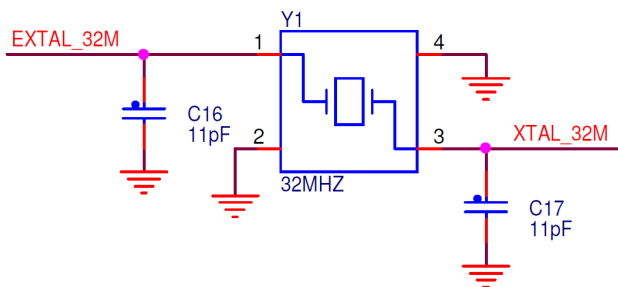

Figure 7. FRDM-CR20A 32 MHz reference oscillator circuit
- 32 MHz Reference Oscillator - Figure 7 shows the external 32 MHz external crystal Y1. This mounted crystal must meet the specifications outlined in the AN3251 application note. The IEEE 802.15.4 Standard requires that the frequency be accurate to less than +/-40 ppm.